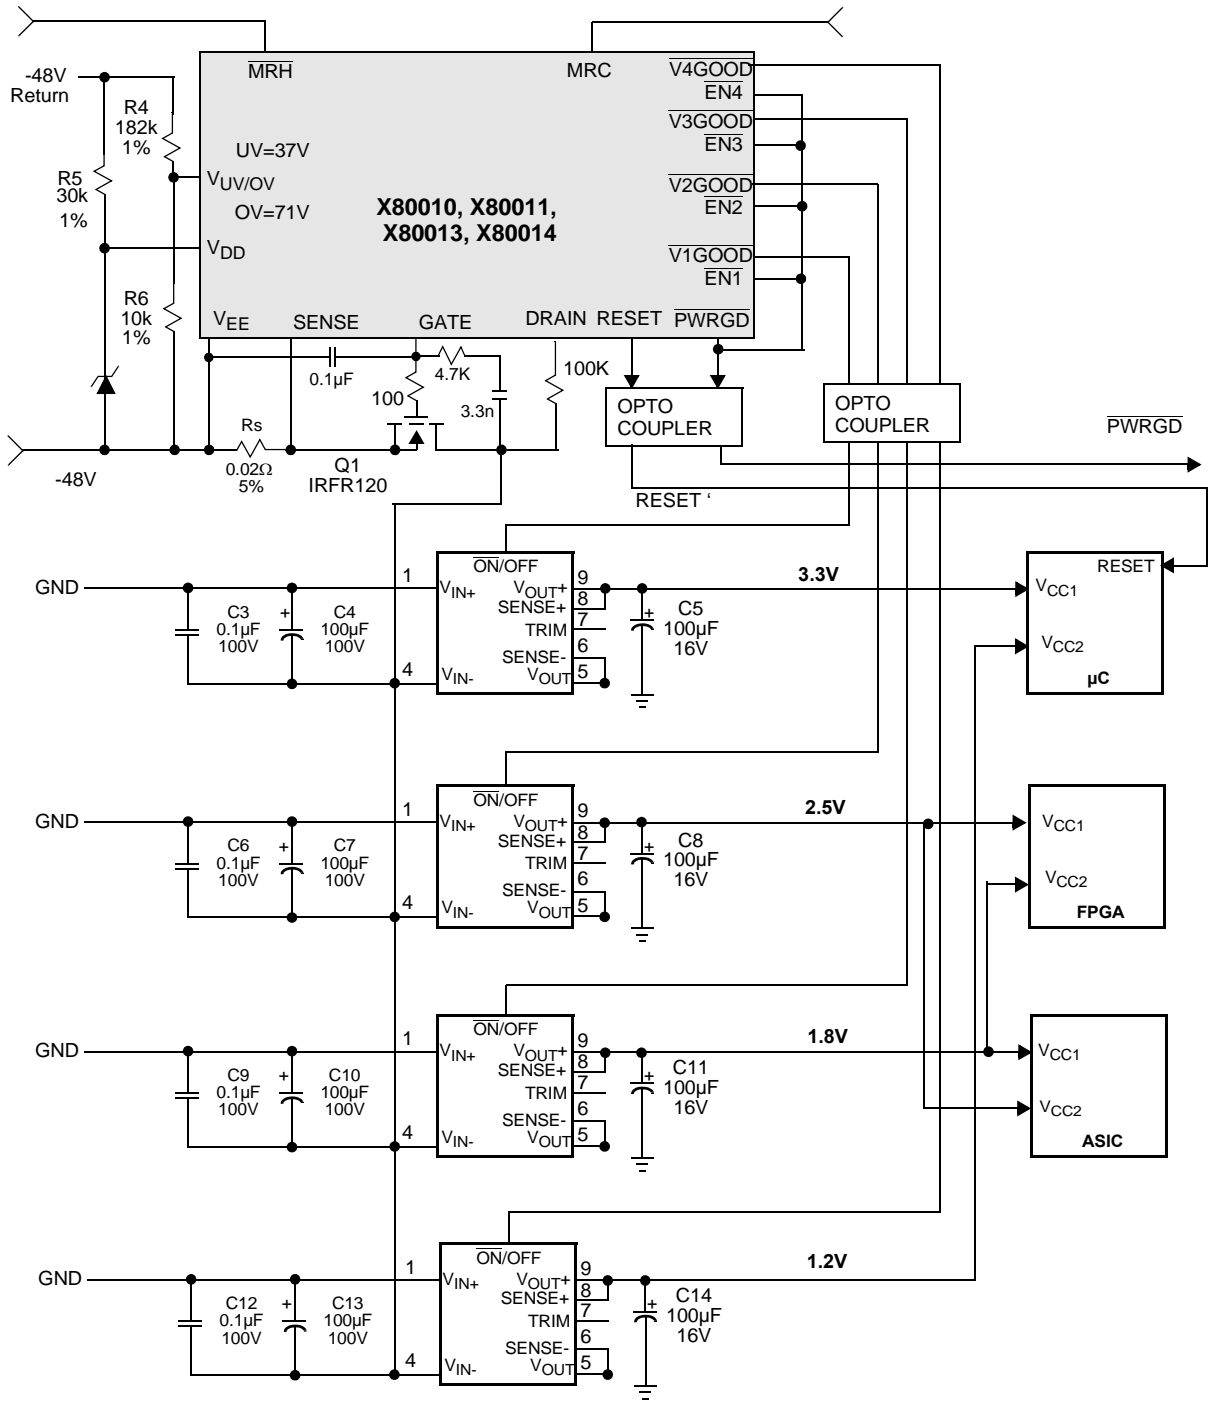
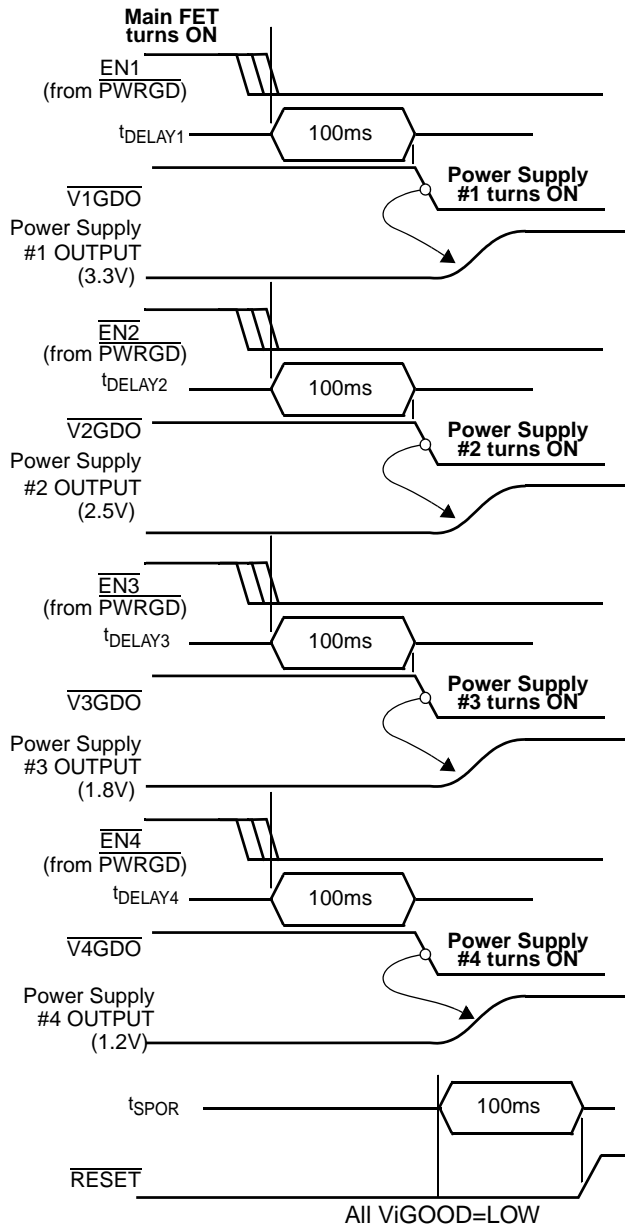

FIGURE 41. TYPICAL APPLICATION OF HOTSWAP AND DC/DC PARALLEL POWER SEQUENCING
FIGURE 42. PARALLEL SEQUENCING OF DC/DC SUPPLIES. (TIMING)
1. Power Up of DC/DC Supplies In Parallel Sequencing Using Programmable Delays on Power Good (See Figure 41 and Figure 42).